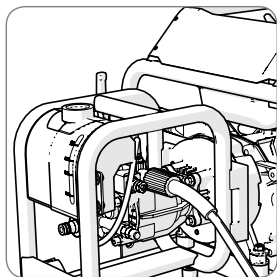

Fig 3
- Push the hose into the relevant port. (Fig. 3)